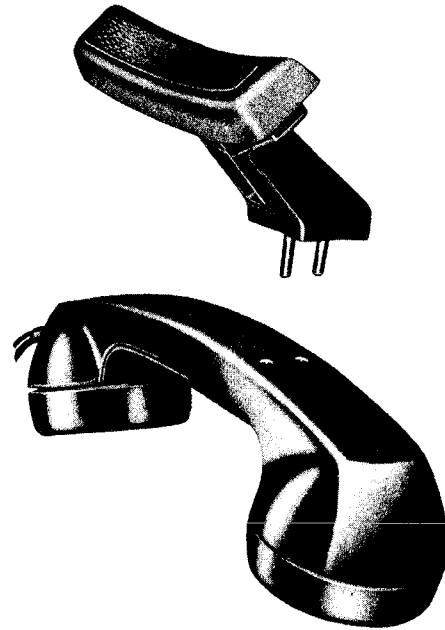

Fig. 5—G4-Type Handset Showing Shoulder Rest Assembly
- 2.21** The G4AR and G4B handsets consist of T1 transmitter units, U3 receiver units, and H4CJ cords mounted on a handle having two holes for mounting a shoulder rest (Fig. 5). The shoulder rest is a shipped loose item and can be installed to fit either the left or right shoulder. The G4-type handset can be used as a replacement for G3-type handsets where a shoulder rest is desired. Connection Fig. 7 applies for G4-type handsets.